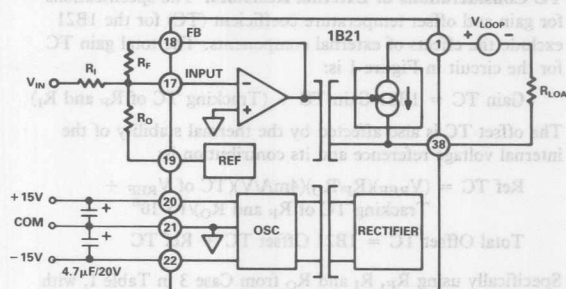

Figure 1. Basic Interconnections
Input Configurations: The 1B21 has been designed with a flexible input stage for a variety of input and output ranges. The basic interconnection for setting gain and offset is shown in Figure 1. The output of the internal amplifier is constrained to 0 to -5V , which maps into 0 to 20mA across the isolation barrier. Thus to create a 4mA offset at the output, the input amplifier has to be offset by 1V .
TC Considerations of External Resistors: The specifications for gain and offset temperature coefficient (TC) for the 1B21 exclude the effects of external components. The total gain TC for the circuit in Figure 1 is: